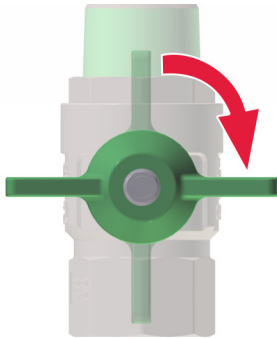

Fig. 25: Closing the main shut off valves
1. ➤ Ensure that all main shut off valves (Fig. 25) and fill and drain cocks have been closed.